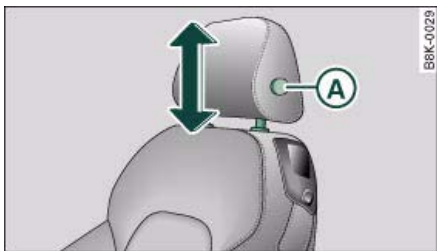

Fig. 78 Front seat: Adjusting head restraint
- Press button (A) → fig. 78 and push the head restraint downwards.
- You should adjust the head restraint so that the top of the head restraint is *at least* at eye level, or higher → fig. 78.